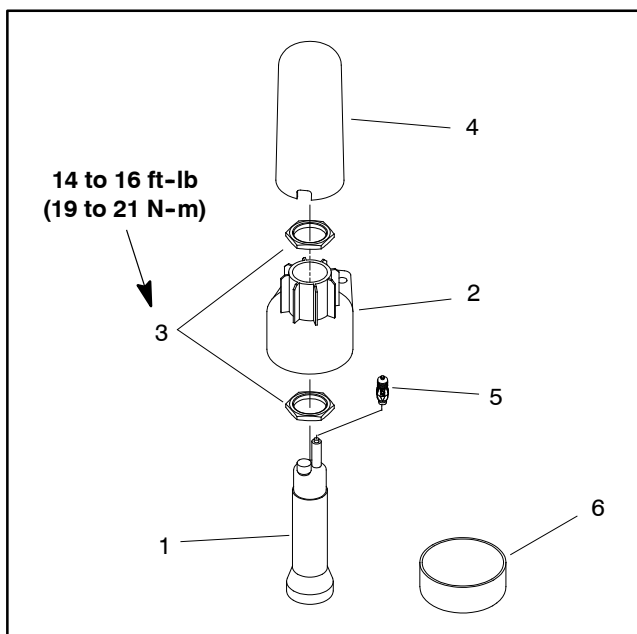

Figure 19
Two (2) identical sonic sensors are used in the Ultra Sonic Boom System. The sensors are mounted to the spray booms (Figs. 19, 20 and 21). During sprayer operation with the sonic boom switch in the automatic position, the sonic sensors will provide inputs for the Toro electronic controller (TEC) to keep the booms at a constant distance from the ground.